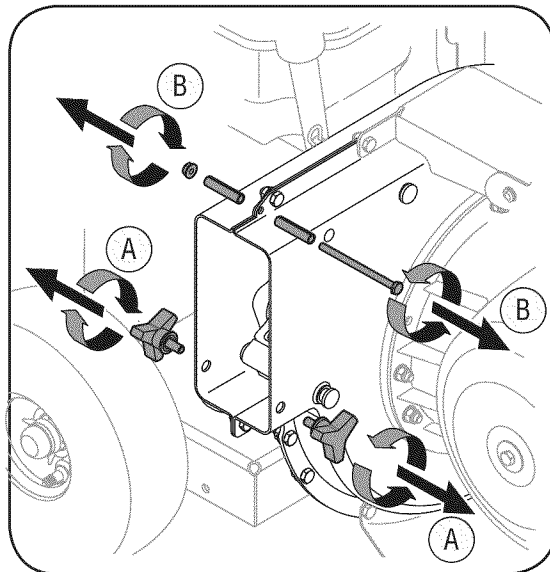

Figure 3-3
b. Remove the hex lock nut, spacers, and hex bolt from the top of the impeller housing. See Figure 3-3.